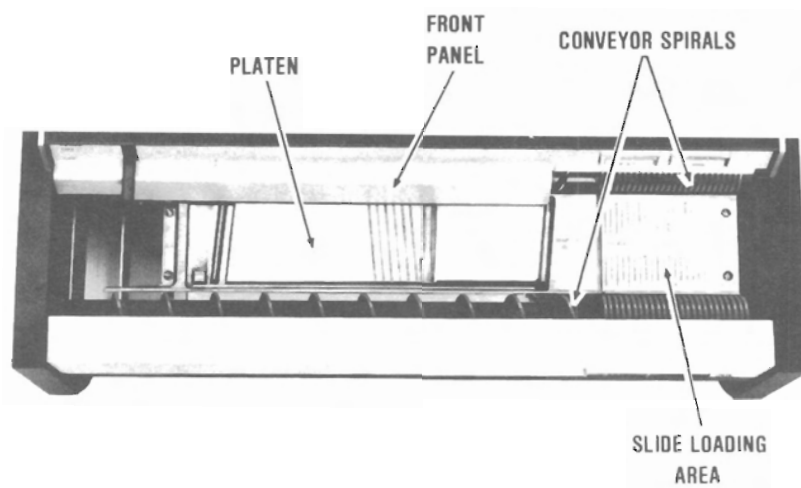

Figure 1-3
There are two parallel, gear-driven conveyor spirals with opposing spiral grooves (Figure 1-3). Slides to be stained are fitted separately into the opposing grooves which move them across the slide stainer. When loading blood films in the instrument, the side of the slide covered by the blood film is faced to the left of the operator. Slides are moved by the conveyor spirals side by side, from right to left, first in a vertical plane, then to a horizontal plane with the blood film facing downward toward the platen.
The platen is located between the conveyor spirals (Figure 1-3). Its edges, two parallel elevated ridges, give support and guidance to the slides as they are moved from the vertical to the horizontal plane and across the slide stainer from right to left. The platen is a precision-machined component designed specifically to maintain exact volumes of required solutions within a capillary space between it and the slide and to provide a mixing system for stain, buffer and rinse. A gutter alongside the platen allows for drainage of used solutions into the waste tank below. The platen provides the necessary space-time interval for proper drying of the slides before they are deposited in the slide drawer.
- Place five blank slides into the grooves of the conveyor spirals. Allow the slides to automatically feed onto the platen. As the slides move down the platen, right to left, observe that the leading edge of the slides contact and activate all three sensing switches which are located behind the front panel with their activating wires exposed in the platen trough. (Refer to Figures 1-3 and 8-9.)